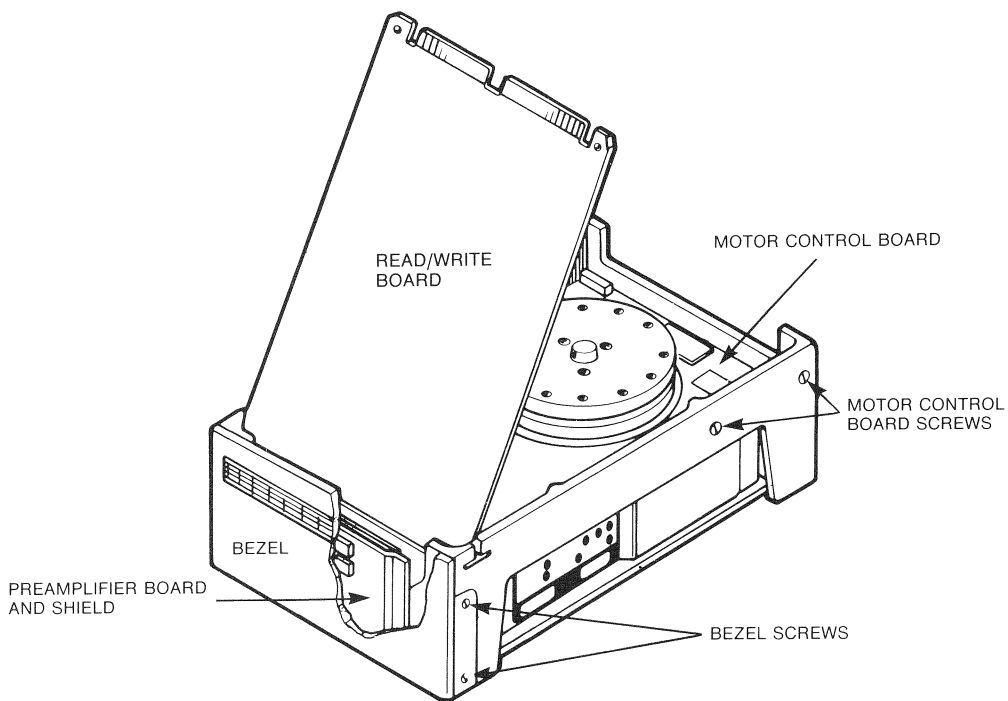

Figure 8-16 RD53 Read/Write Board Removal
1. Remove the four Phillips screws retaining the slide plate and ground clip. Set the slide plate aside (Figure 8-16).